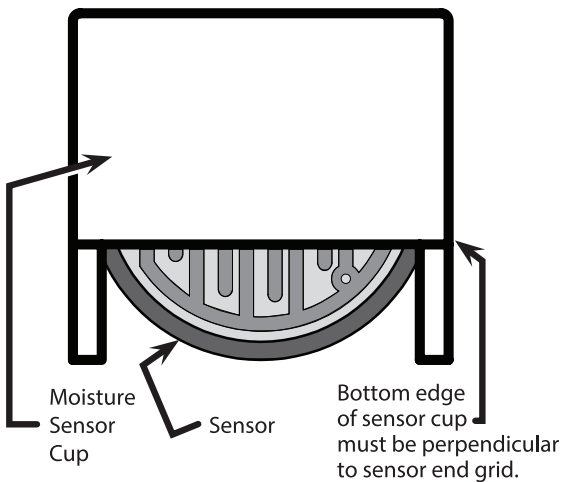

FIGURE 3. Moisture Sensor Cup installed over the Sensor.
4. Once the adapter has been secured in place over the moisture sensor flange, gently rotate the adapter in either direction until the bottom of the cup is perpendicular to the sensor end grid. Refer to Figure 3.